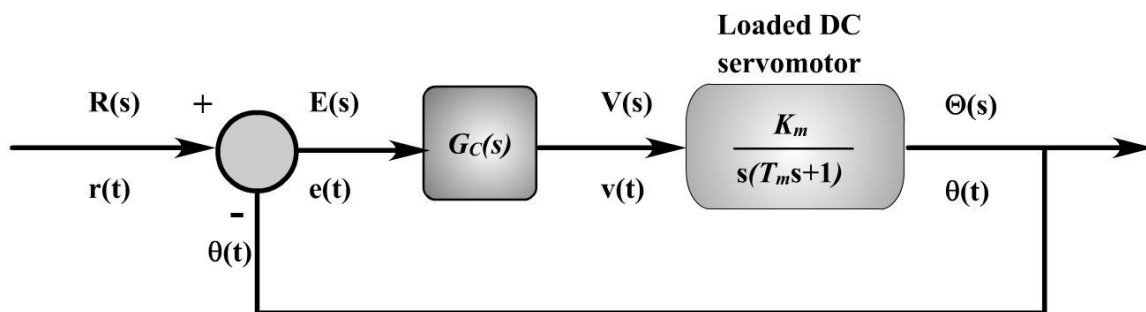

Figure 3: Position control loop.
Figure 3 shows a position control loop for the lab DC servomotor. A variety of control strategies, represented by the Laplace function $G_C(s)$, can be used to control the shaft position. We have already seen proportional (P) control. In this section we will consider three other types of control that use not only the error of the shaft position, but also the integral and/or the derivative of this error. The three additional types of control to be considered include PI, PD, and PID control.